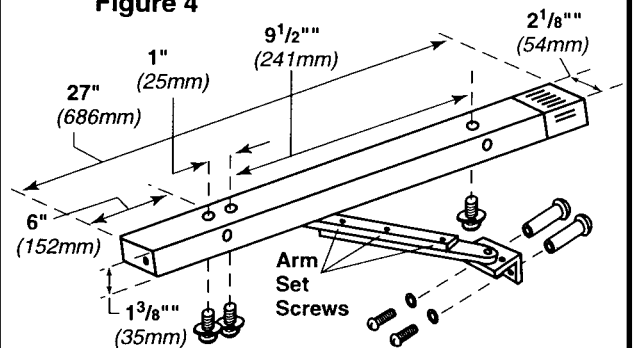

Figure 4
13. Loosen arm set screws (see Fig. 4).
14. For 180 degrees hold open, move the arm to the bracket hole closest to the hinge. Otherwise, leave arm in center bracket hole. Install arm bracket using sex bolts, lock washers, and sex nuts (see Fig. 4).
17. Tighten arm set screws (see Fig. 4). (The door should now be held open.)